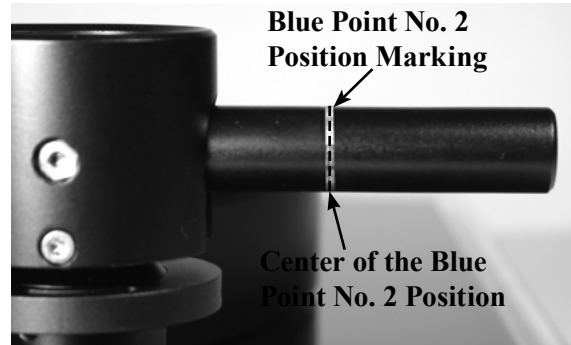

Figure 9
8. Position the Counterweight on the Tone Arm so the front surface of the Counterweight is in the center of the Blue Point No. 2 Cartridge position marking on the surface at the rear of the Tone Arm. Tighten the knurled knob to secure the position of the Counterweight. Refer to figures 9, 10 and 11.